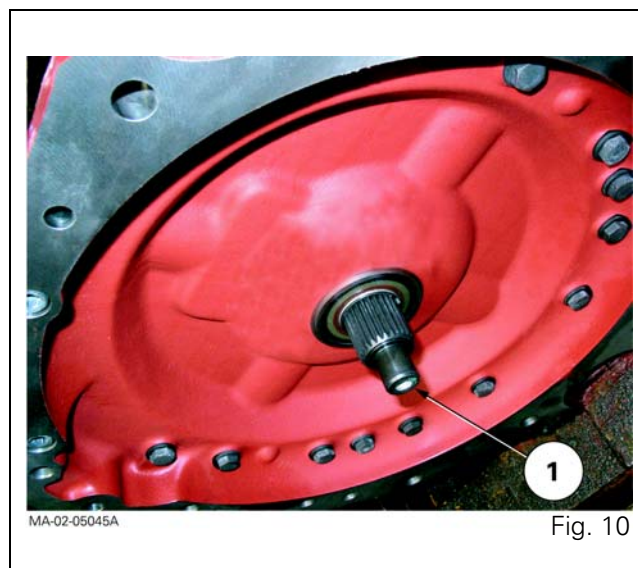

Fig. 10
- 25.** Lightly lubricate the splines of main shaft (1) (Fig. 10) with grease (type GN + Molykote) or equivalent.